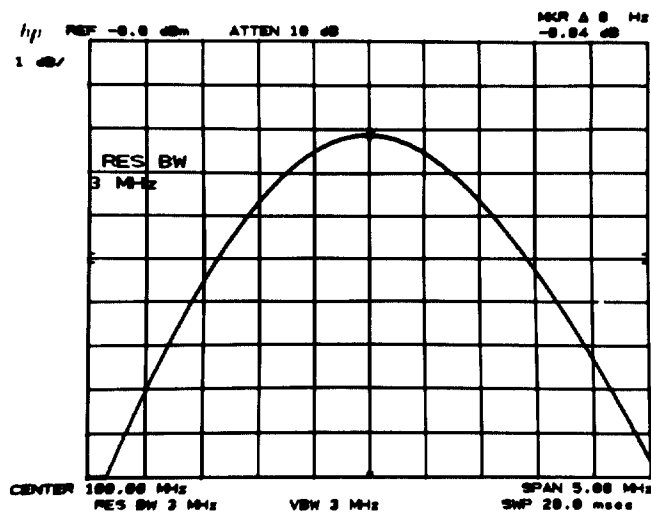

FIGURE 7. BANDWIDTH SWITCHING UNCERTAINTY MEASUREMENT
5. Key in settings according to Table 7. Press MARKER **PEAK SEARCH** at each setting, then read the amplitude deviation from the MARKER **Δ** readout at the upper right of the display (see Figure 7). The allowable deviation for each resolution bandwidth setting is shown in the table.